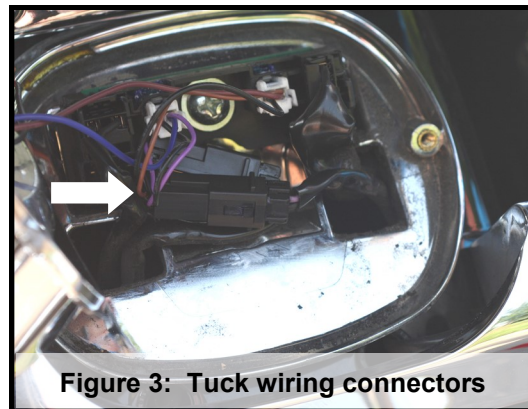

Figure 3: Tuck wiring connectors
9. Tuck connectors into the center space in the center of the base. Make sure there is enough space to allow installation of the taillight. (See Figure 3)